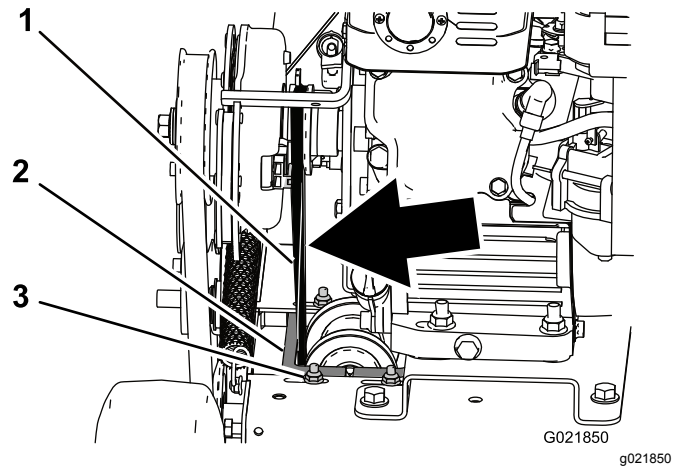

Figure 26
finger pressure applied to the span just above the machine frame (Figure 26).
5. To tighten the belt, loosen the 4 mounting nuts and bolts securing the pulley carriage to the frame, and move the carriage to the left, tightening the belt; then secure the 4 mounting nuts and bolts (Figure 26).